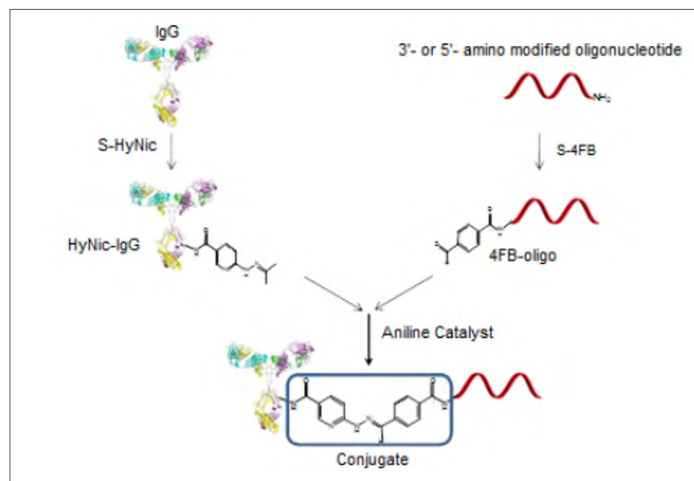

Figure 1. Reaction of a HyNic-modified IgG with a 4FB-modified oligonucleotide leads to the rapid formation of a stable antibody–oligonucleotide conjugate.
**Description** The Antibody–Oligonucleotide All-In-One Conjugation Kit contains all necessary reagents and components to produce one antibody–oligonucleotide conjugate. Based on patented **SoluLINK® bioconjugation technology**, it allows any purified mammalian antibody of the IgG isotype to be conjugated and purified in a three-stage process taking around 11 hours and involving just 2 hours of hands-on time. First, the user-supplied amino-oligo is modified with S-4FB, then the user-supplied antibody is modified with S-HyNic. Next, the two modified biomolecules are mixed in the presence of a reaction catalyst to form the conjugate, which is subsequently purified using a magnetic affinity solid phase. This procedure results in 20–60 µg of high purity antibody–oligonucleotide conjugate that is ready for use (Figure 1). Yield is largely dependent on oligonucleotide length, with shorter oligonucleotides typically having higher yields. Final conjugate concentrations typically range from 0.1–0.3 mg/ml.